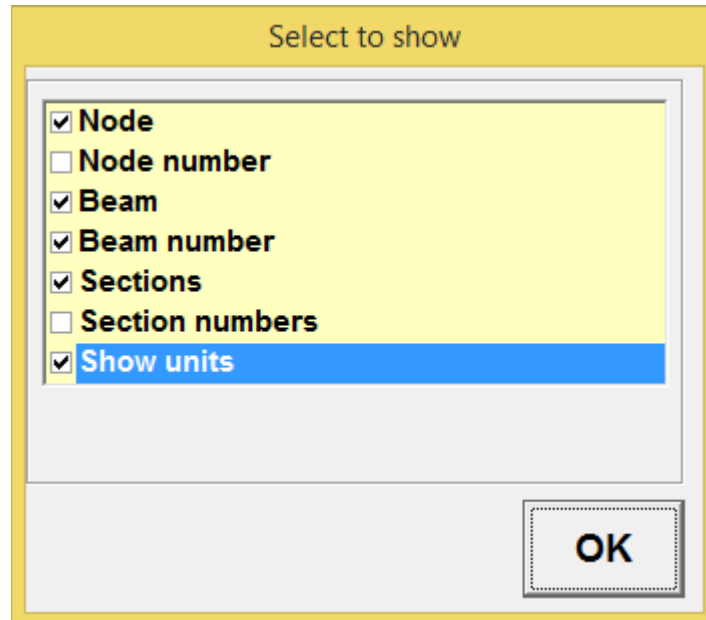

Figure 70
**Step 1:** Click button  Figure 70 will then appear.